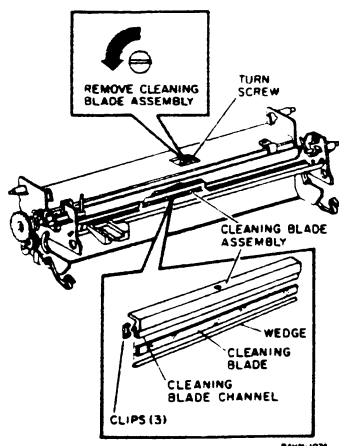

Figure 1. Removal of the Cleaning Blade
3. ACCESS THE SCREW (TAG 31 PRINTERS. REMOVE CONTAMINATION HOSE GROMMET AND BRACKET) (FIGURE 1).
4. REMOVE CLEANING BLADE (FIGURE 1).